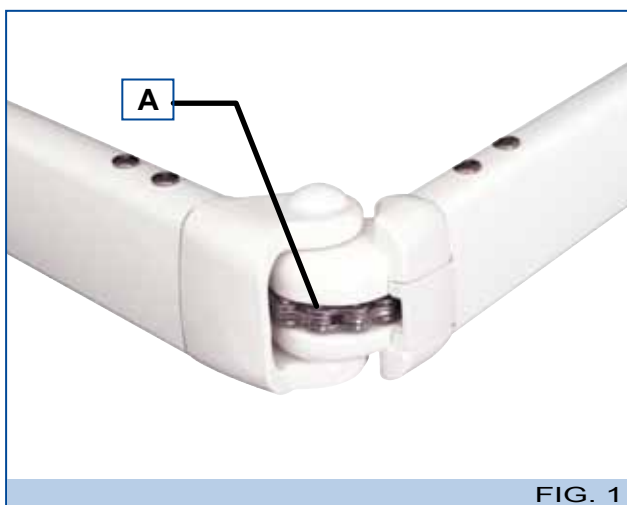
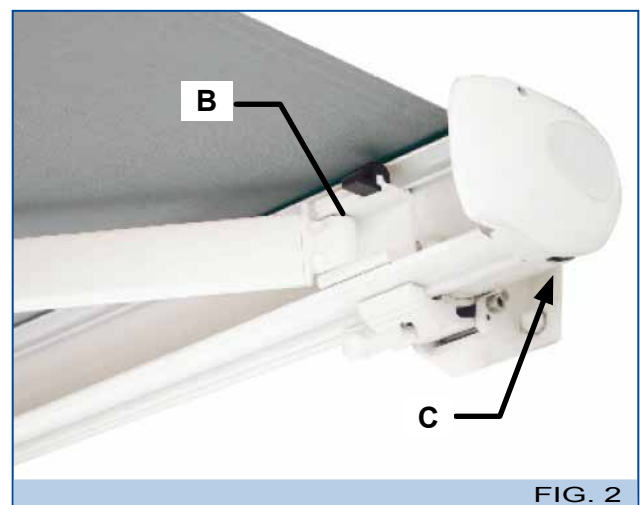

FIG. 1
FIG. 2
- If installed, lubricate the chain, the joint (A - Fig. 1) and the shoulder (B - Fig. 2).
- Lubricate the cover on the part opposite the control (motor or crank-rod) (C - Fig. 2).